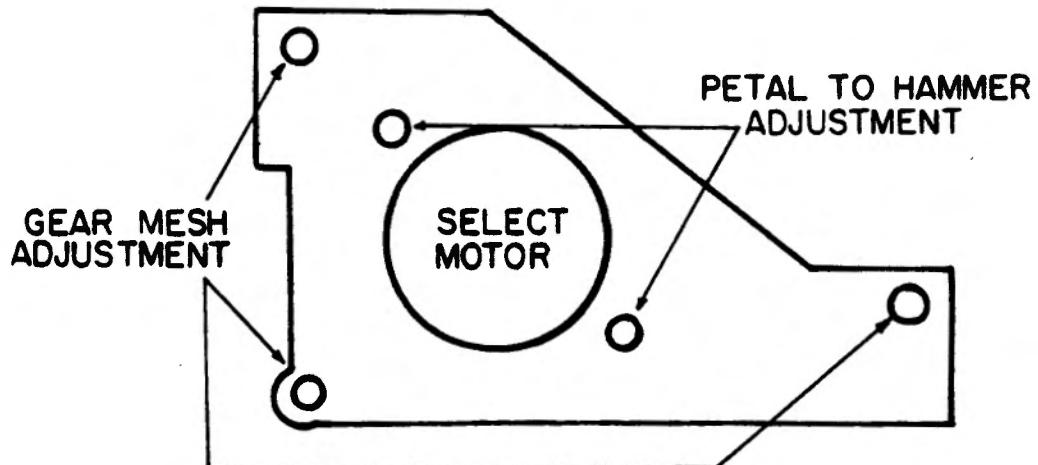

Figure 1
9. The second part of this alignment procedure is to align the petal to the hammer. There are two screws (see figure 1) which can be loosened to allow the select motor to be rotated on its axis. Loosen these screws, rotate the select motor (observing the movement of the petal in relation to the hammer) until the petal matches up to the hammer.